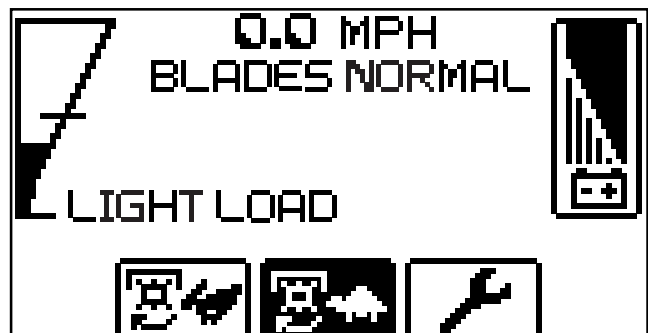

Figure 5-11
2. To return the mower to the blades normal function/light load, press the “BLADE NORMAL” button under the blades normal icon. When the blades normal is active the icon will darken. See Figure 5-11.